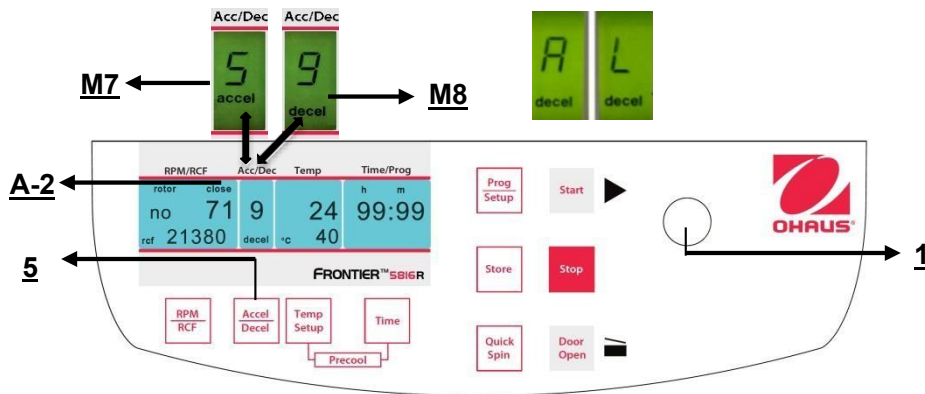

Figure. 21
This function is activated through the key "Accel/Decel" (5) (refer to figure 21).
Close the lid, then press the key **"Time"** (6) (refer to figure 21) and the key **"Prog/Setup"** (11) at the same time and hold them.